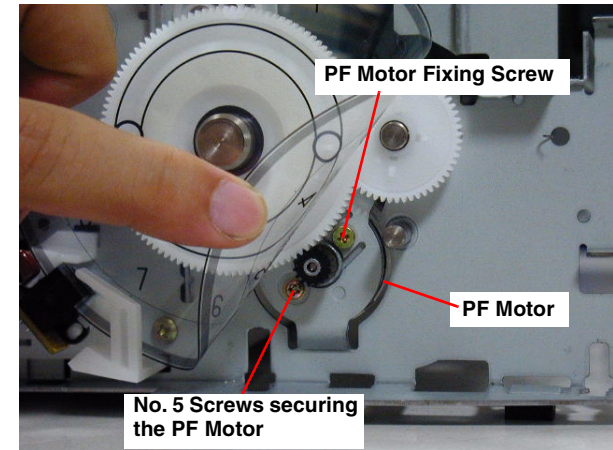

Figure 4-64. Removing the PF Motor
- 5) Holding the PF Motor, remove one No.5 screw and PF Motor fixing screw securing the PF Motor, and remove the motor from the Left Side Frame. Refer to Figure 4-64.